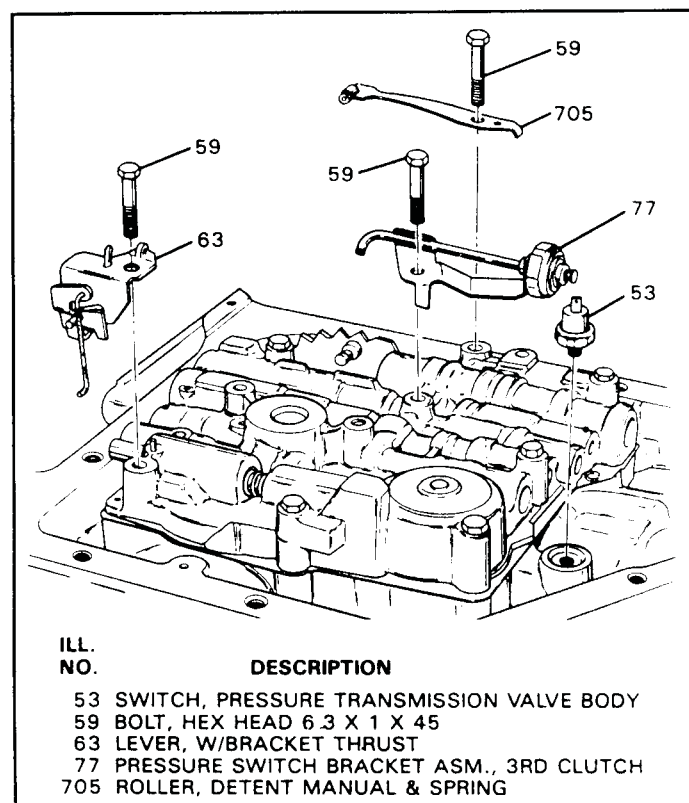

Figure 39
25. Remove the wires from pressure switches and the wire clips (See Figure 39).
26. Remove governor switch from the case if the unit is so equipped (See Figure 39).
27. Remove wire from 3rd clutch pressure switch, if so equipped, and the switch and bracket assembly (See Figure 39).
28. Remove the throttle lever and bracket assembly as shown in Figure 39.
29. Remove the manual lever detent roller and spring assembly, as shown in Figure 39.